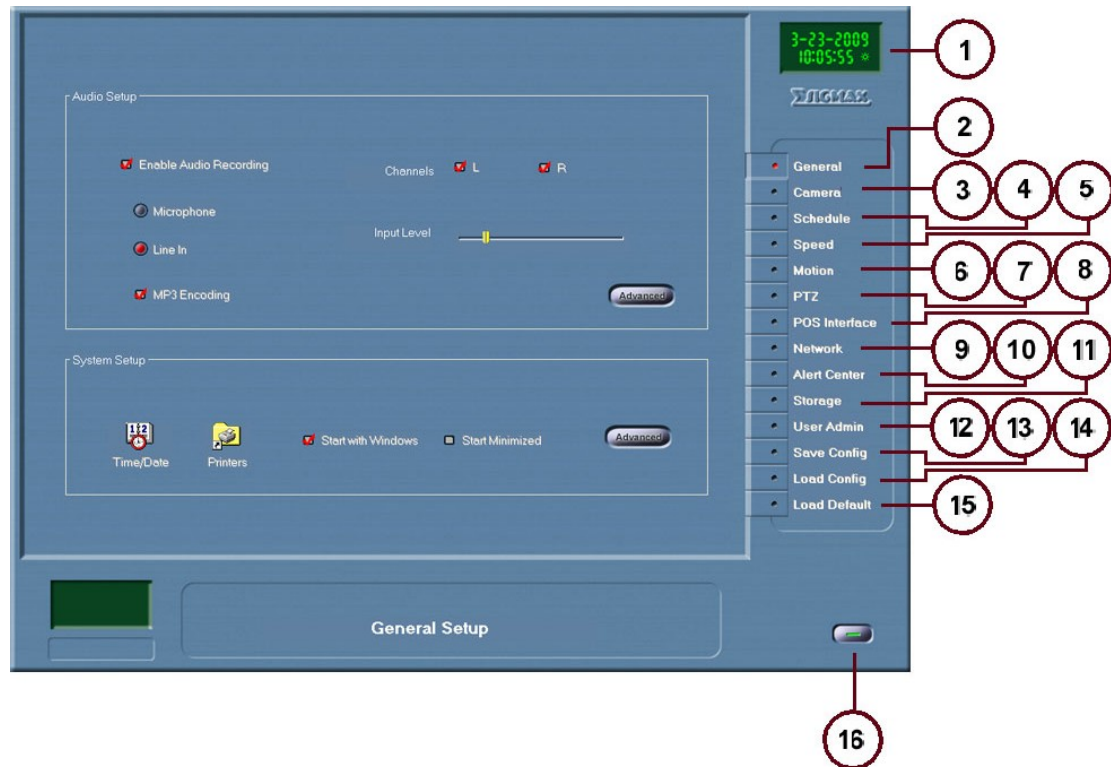

Figure 4-1 System Setup
Click the System Setup button on the Main screen (Figure 4-1) to view the following Setup screen (will stop current HDER session):
Click the General tab (Figure 4-1 (2)) to view the General Setup:
Click the Camera tab (Figure 4-1(3)) to view the Camera Setup:
Click the Schedule tab (Figure 4-1(4)) to view the Recording Schedule Setup: